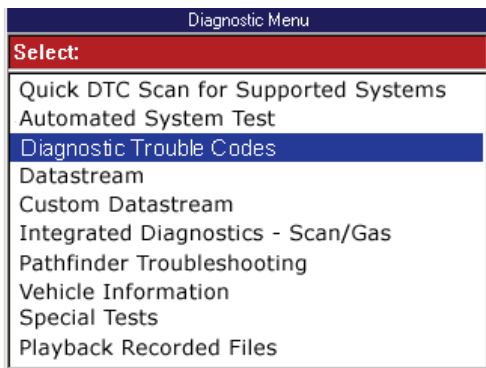

Figure 3.14: Diagnostic Menu Screen
- If either a Message screen or a Diagnostic Menu screen appears (Figure 3.14 on page 20), go to Step 4: Select the Diagnostic Function on page 20.